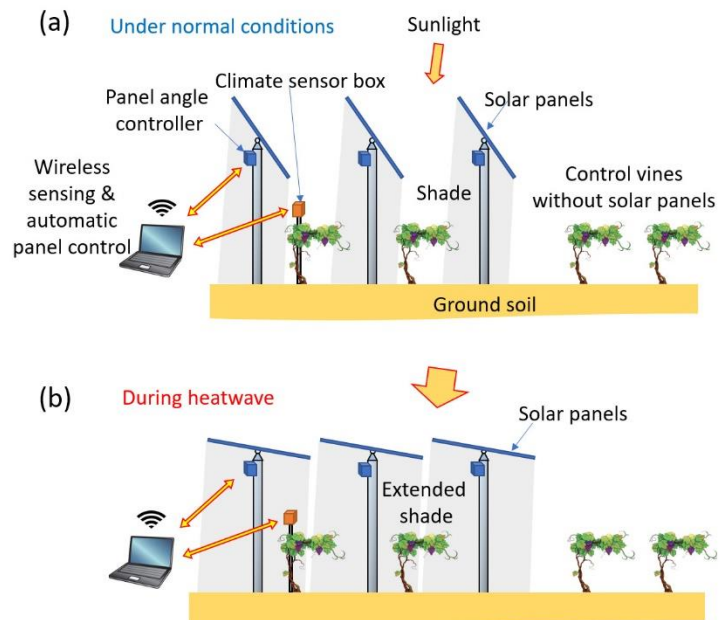

Fig. 1. Illustration of the agrivoltaic system at a small vineyard with smart panel control and climate monitoring system
Agrivoltaics is the dual use of land for both photovoltaic (PV) power generation and agriculture. In agrivoltaics, shading created by PV panels can affect plant growth adversely for light-sensitive crops, as it reduces the light for photosynthesis. On the other hand, PV panels can provide protection for crops in the event of extreme climate conditions such as heatwaves, hail, and heavy rain, all of which are expected to occur ever more often due to the climate change. Excess light exposure in warm-to-hot summer climates is also detrimental to many agricultural products, as it can cause “sunburn” that chemically damages the product and leads to poor quality. To tackle these issues, we propose the use of advanced sensors installed at the site to detect local climate conditions and adjust the solar panel angle to protect crops from potential damage. See Fig. 1 below for the illustration of the proposed PV panel control.